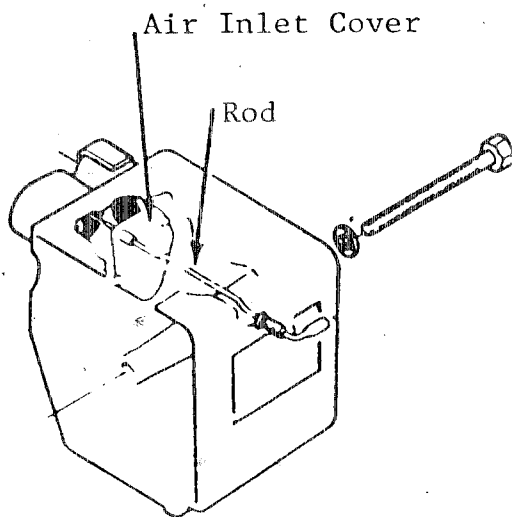
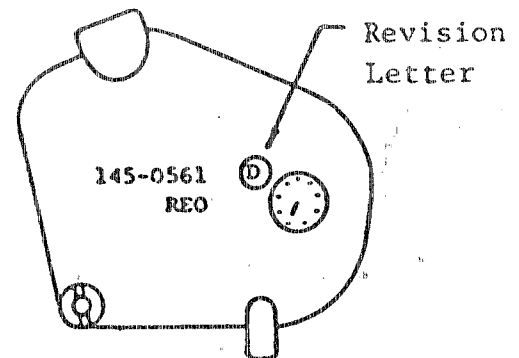

FIG. 1
FIG. 2
This jumper lead should be connected across the input side of CB1 and CB2 (see Fig. 1).
Service Department has received complaints from the field of surging and overspeed conditions in Emerald RV gensets. These problems have been linked to carburetor icing which can occur under certain atmospheric conditions. To reduce the chances of carburetor icing, a change was made to the air inlet cover and rod, located in the air cleaner box (See Figure 1). The new style cover and rod can be identified by the revision letter (D) stamped on the inside of the inlet cover (See Figure 2).